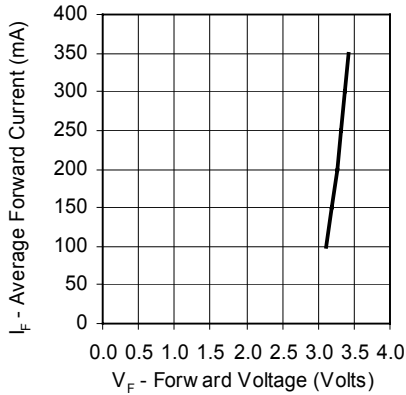

Figure 3a.
2. Dynamic resistance is the inverse of the slope in linear forward voltage model for LEDs. See Figures 3a and 3b.